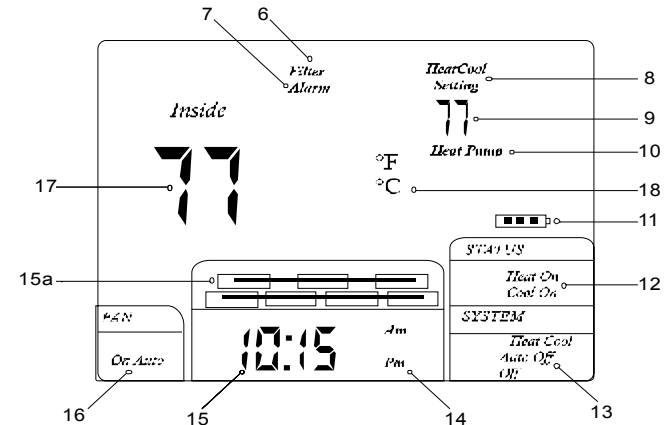

**Figure 1**
8. Fasten the base loosely to the wall as shown in Figure 1, using two mounting screws. Place a level against the bottom of the base and adjust until level, then tighten the screws. (Leveling is for appearance only, and will not affect thermostat operation.)
Read the following information before setting the fan option switch (See figure 1). If you are unsure of your application, contact a qualified service person.
If a voltage spike or static discharge blanks out the display or causes erratic thermostat operation, you can reset the thermostat by pressing the reset button (See Figure 1). If the thermostat has power, and has been reset and still does not function correctly, contact your heating/cooling service contractor